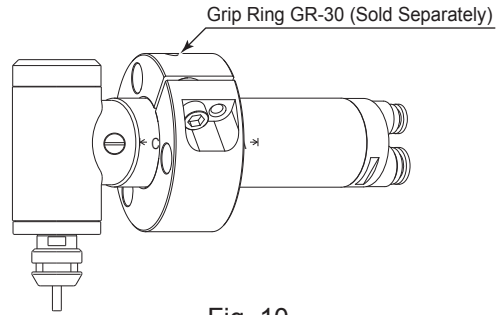

Fig. 10
- * When installing the Air Motor Spindle, it is recommended to use a " Grip Ring GR - 30 (sold separately (Fig. 10)) ". If the Grip Ring GR - 30 cannot be used due to the restriction of dimension and space, install as shown in ② below.